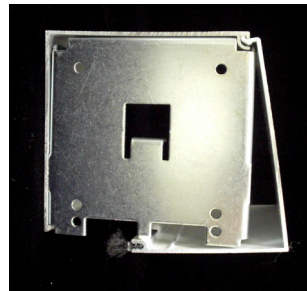

Figure 22 Fascia Going Onto
- Position the lip of the fascia over the lip of the top/back cover (Figure 22).